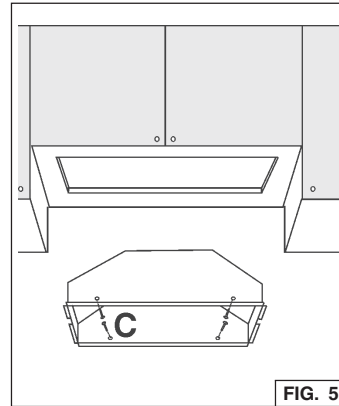
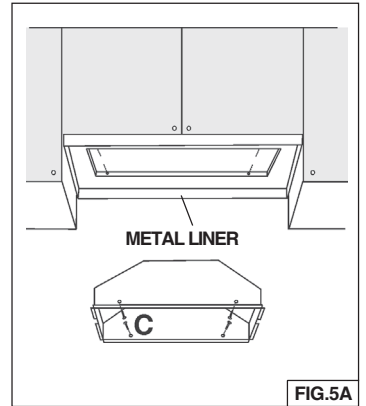

FIG. 5
FIG. 5A
4. **NOTE:** For installations where the Power Pack is less than 30" above cook top, it is recommended that the Power Pack be mounted into a metal liner or non-combustible material. This will allow easier cleaning and provide protection to the cabinetry (Fig.5A).
6. Insert the hood in the cabinet (Fig. 5) or metal liner (Fig. 5A) and secure with the (4) "C" mounting sheet metal screws.
(Fig. 5 - wood bottom installation; recommended thickness 1/2"-3/4").